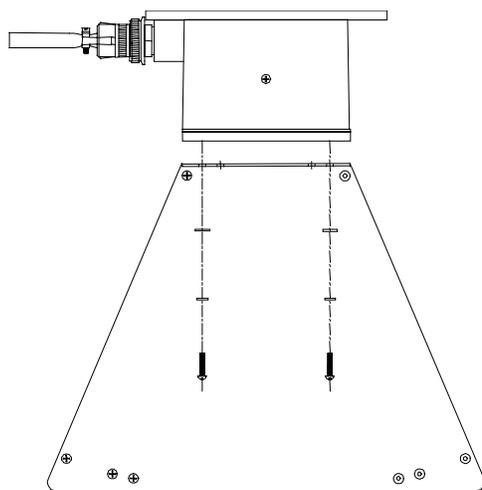

Figure G.5-8: Horn Blinder Screw Assembly on Model 10XR Receiver
- 6) Assemble the screws with a lock washer first and the flat washer second {Figure G.5-8}.
- 7) Insert the four mounting screws into the bezel and finger tighten {Figure G.5-8}.